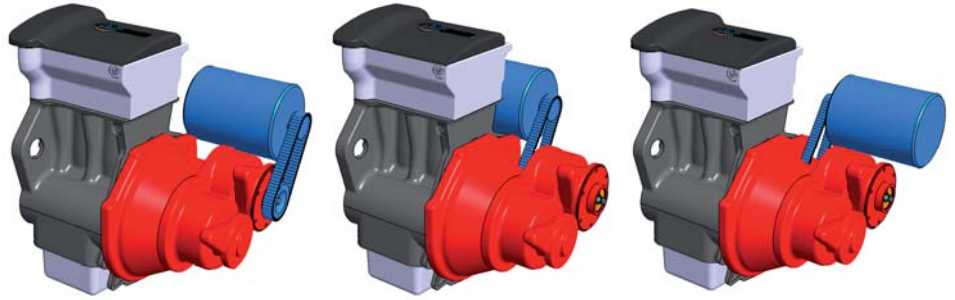

Figure 3 Electric motor integration flexibility with an innovative IFP Energies nouvelles concept
Another definition of versatility concerns the powertrain components. Firstly, electric motor (EM) variety to meet mild, full and also plug-in hybrid requirements, in terms of power or torque, but also concerning component dimensions, highlights the need for transmission flexibility. Hence the integration of this component can be adjusted on demand with the IFP Energies nouvelles solution as shown in Figure 3. Furthermore, because downsizing and a reduced number of cylinders (2-cylinder or 3-cylinder) is a major trend in internal combustion engine (ICE) design, this leads to challenging NVH issues. Among the different solutions, enabling higher stiffness in transmission design means that this issue has to be taken into account by decreasing resonance frequency and thus possibly avoiding the use of dual mass flywheels in certain cases, thus reducing overall powertrain costs. With regard to NVH issues, it should also be noted that the design of this transmission leads to the absence of gear shot-blasting.